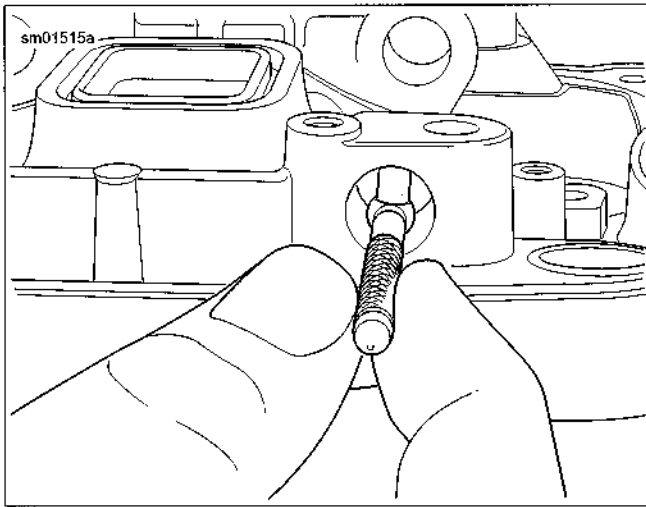

Figure 3-29. Measuring Rocker Arm Shaft Bore Diameter in Inner Rocker Cover
- a. See Figure 3-29. Measure rocker arm shaft bore in inner rocker cover.